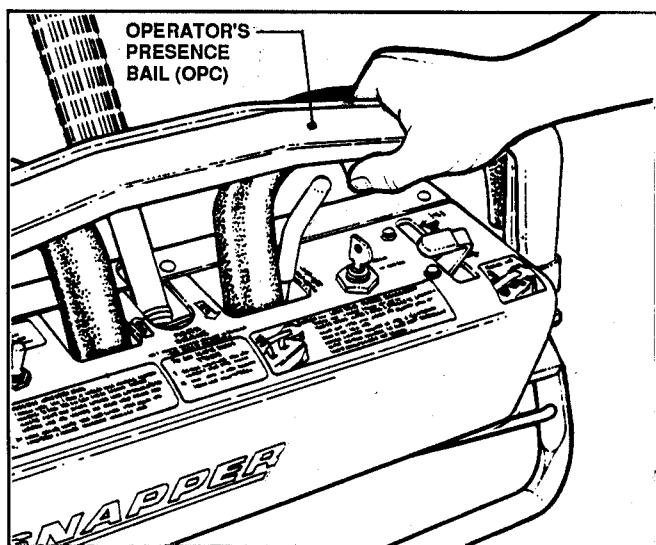

FIGURE 10
9. Depress OPERATOR'S PRESENCE bail against handlebar. See Figure 10.